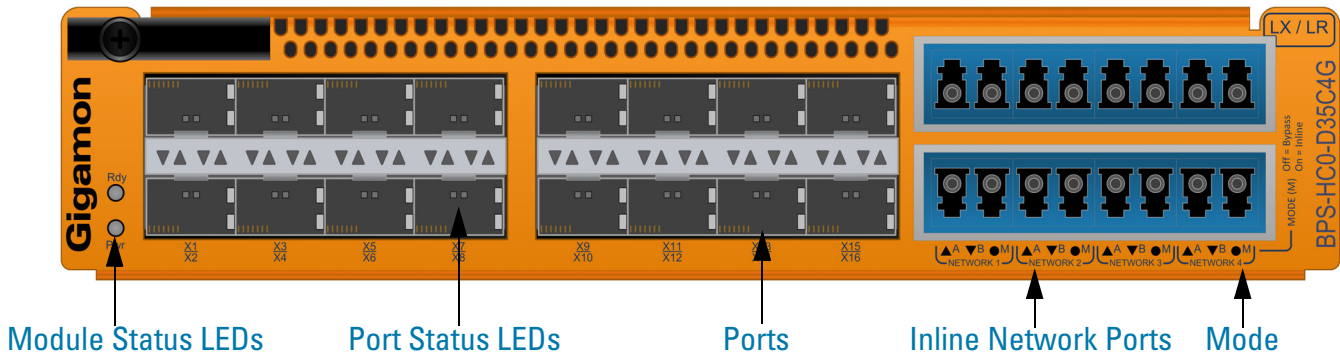

Figure 1-15: Bypass Combo Module BPS-HC0-D35C4G
- Bypass Combo Module with four LX/LR (singlemode) inline network port pairs and sixteen regular SFP+ port cages (BPS-HC0-D35C4G) (Figure 1-15 on page 29)